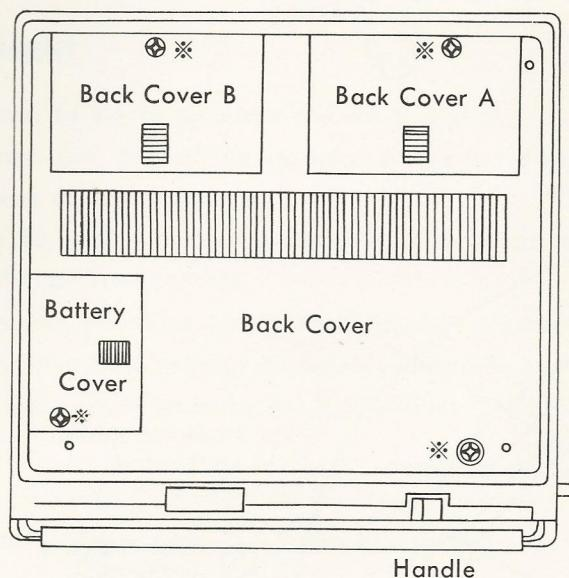

Figure 1. BACK REMOVAL
2. Remove the four (4) screws marked (※) shown in figure 1.